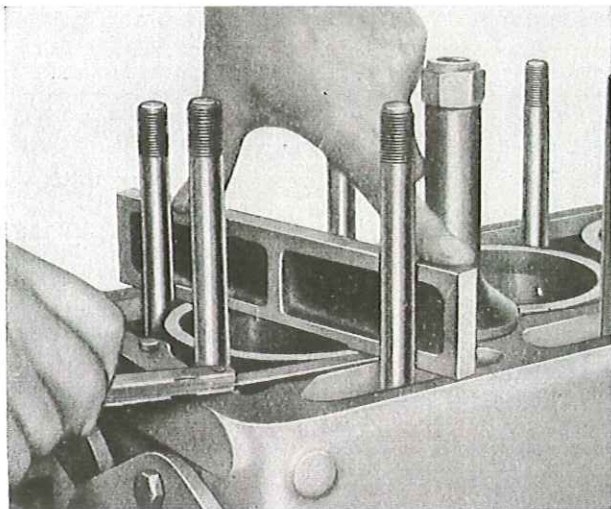

Fig. 70. - Measuring cylinder liner projection.
- The protrusion of the top surface of cylinder liners above the top flat surface of the cylinder block can be checked using sleeve retainers **A 413113**, rule **C 517011** and feeler gauge **C 315** (Fig. 70).